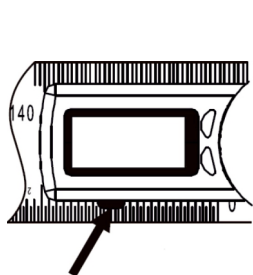

Fig.1
- » Press the battery holder (Fig.1).